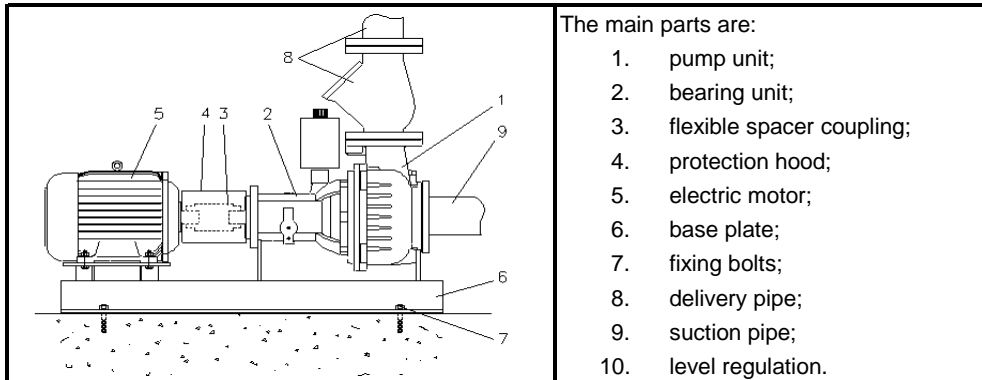
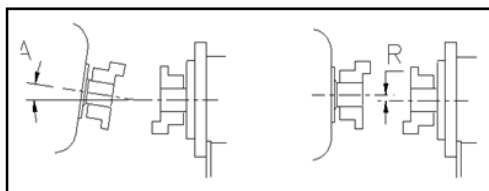

Fig. 7.1
Fig. 7.3
Horizontal installation on base plate. See fig. 7.1
- Fixation of the base-plate to the floor, see fig. 7.1 pos. 7.
- Remove the protection hood, (see fig. 7.1 pos 4).
- 1.radial deflection (R) max. 0.4mm.
- 2.angular deflection (A) max. 1°
- See fig. 7.3.